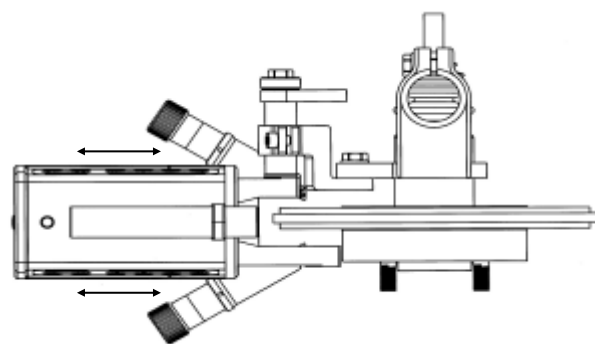

Fig. 64
6. Move the slides carefully to the hub of the brake rotor, Fig. 64.